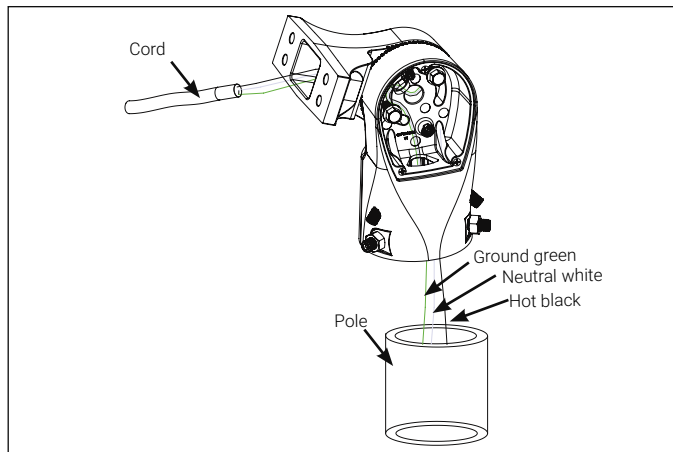

Figure 5.
- Loosen (3) #8 screws to remove the access cover from the slip fitter arm. Set aside for installation.
- Pull the supply wire leads through the top of pole or tenon top. Support fixture and lower onto pole while feeding supply wires through the slot in the slip fitter (Fig 5).